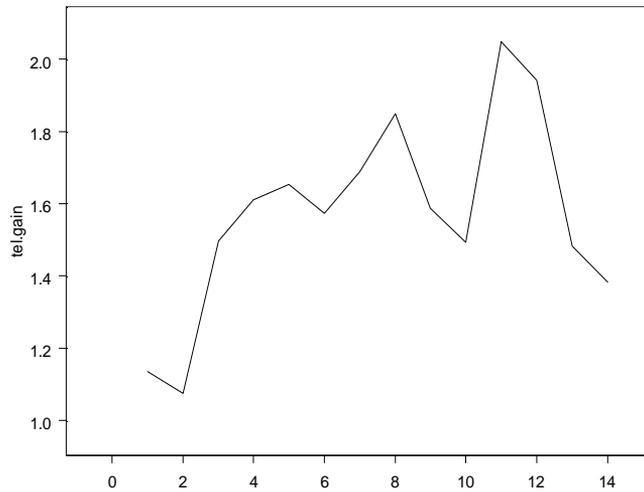

Figure 3.20: *Line plot of tel.gain.*
3. Click the **Line** button  on the **Plots 2D** palette. The resulting graph is shown in Figure 3.20.